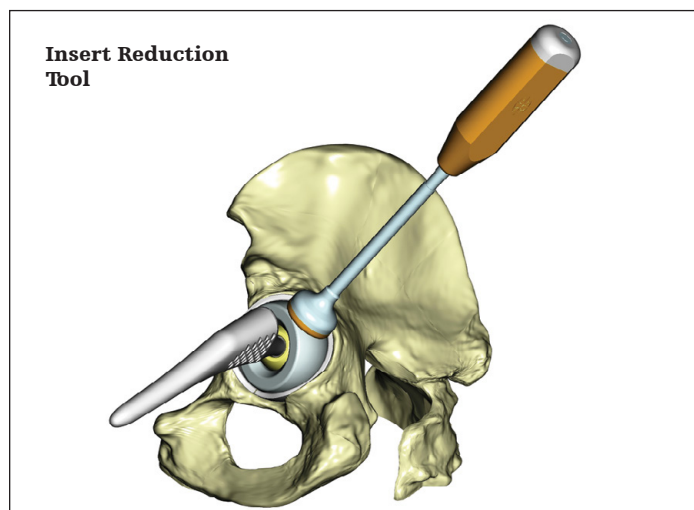

Figure 16
- Then, by exerting axial traction on the limb and pressure on the insert using the Insert Reduction Tool (**Figure 16**), reduce the hip and check for laxity and range of motion. The surgical site is then closed according to surgeon preference.